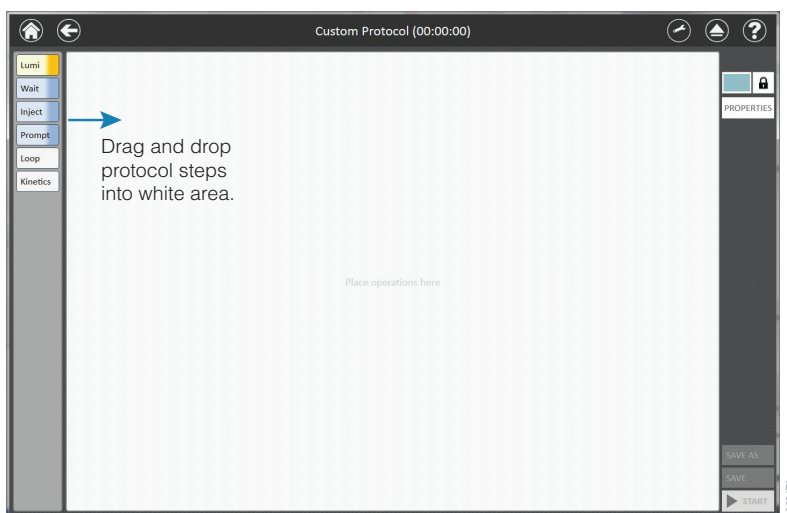

Figure 18. GloMax® Navigator 'New Protocol' screen showing drag and drop feature to create custom protocols.
3. Build your protocol by dragging and dropping protocol functions from the left panel onto the **Protocol Window** (Figures 18 and 19). Individual protocol functions are described in the Protocol Functions section below. Use the **Properties** button on the right to modify the name and description of the protocol.